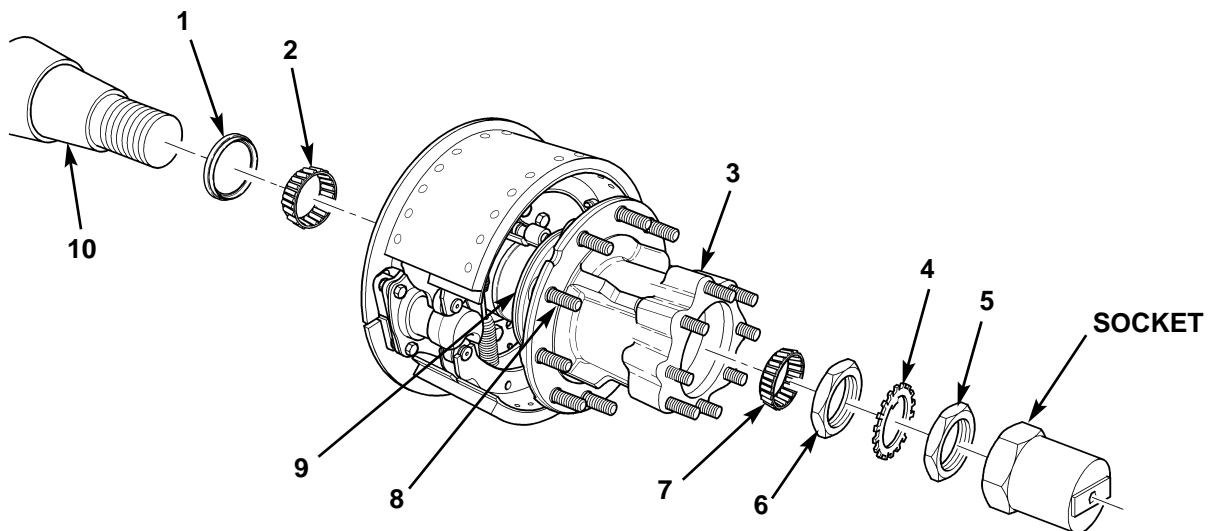

Figure 2. Removing Hub and Wheel Bearings.
2. Bend tabs on lockwasher (figure 2, item 4) away from outer nut (figure 2, item 5). Using 4-1/8 in. (105 mm) socket, remove outer nut (figure 2, item 5), lockwasher (figure 2, item 4), and inner nut (figure 2, item 6) from axle housing spindle (figure 2, item 10). If tabs are broken, replace lockwasher (figure 2, item 4).
3. Remove outer bearing cone (figure 2, item 7) and rear hub (figure 2, item 3) from axle housing spindle (figure 2, item 10).
4. Using suitable drift and hammer, remove seal (figure 2, item 1) and inner bearing cone (figure 2, item 2) from rear hub (figure 2, item 3). Discard seal (figure 2, item 1).
5. Remove rear tone ring (figure 2, item 9) from rear hub (figure 2, item 3). Refer to WP 0021.
6. Using suitable press or hammer, drive wheel stud (figure 2, item 8) from rear hub (figure 2, item 3).